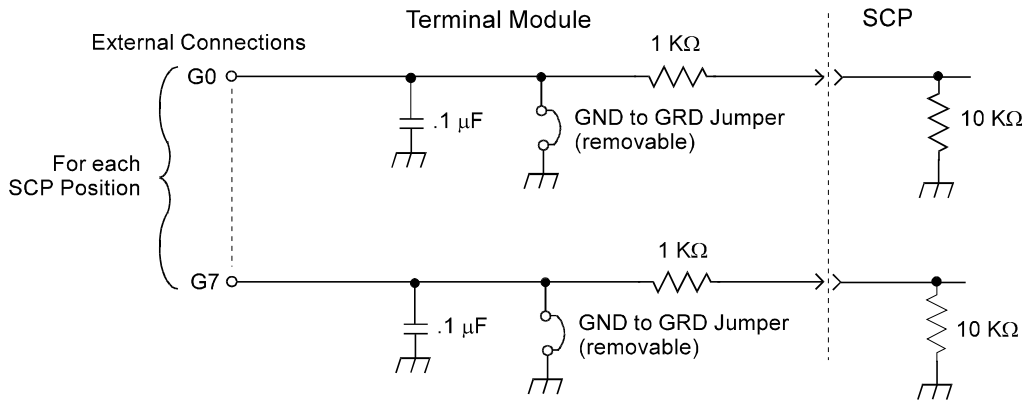

Figure 2-10 GRD/GND Circuitry Opt. 12 Terminal Module
3. Connect the shield of each wiring pair to the corresponding Guard (G) terminal on the Terminal Module (see Figure 2-10 for schematic of Guard to Ground circuitry on the Terminal Module).